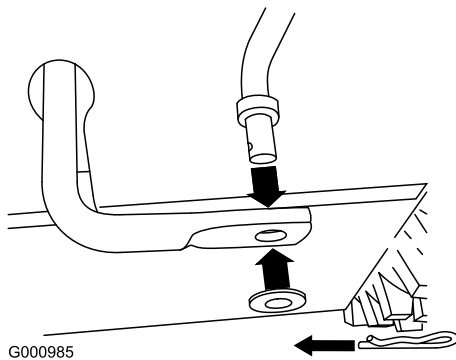

Figure 11
- Remove the hairpin cotter and washer from the lower end of the speed-control rod and insert the lower end of the rod into the lower link arm so that the bent end of the speed-control rod faces rearward (Figure 11).